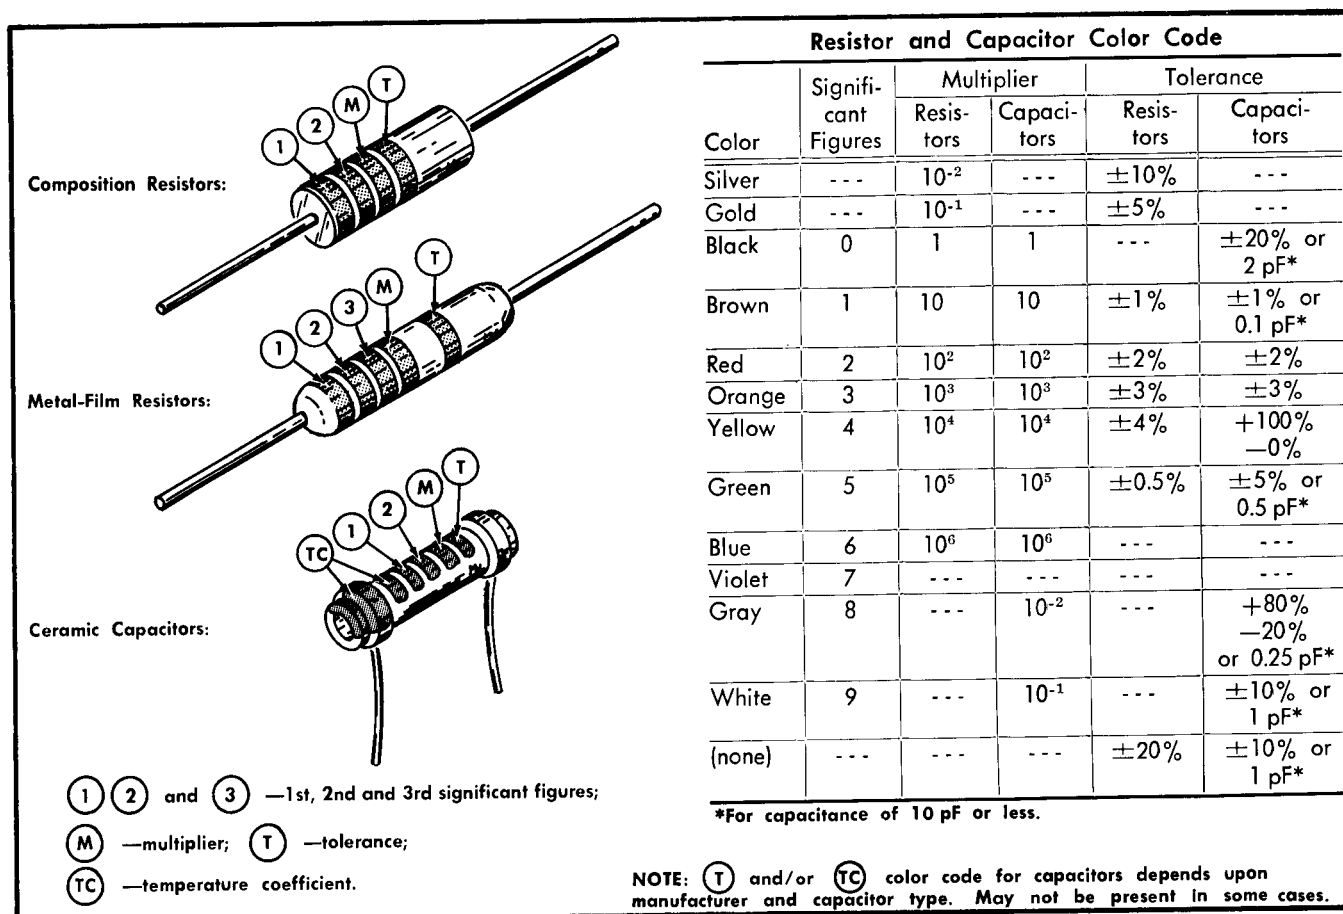

Fig. 6-1. Resistor and ceramic capacitor color code.
The color-coding sequence is shown in Fig. 6-1.
**Capacitor Marking.** The capacitance values of common disc capacitors and small electrolytics are marked in microfarads on the side of the component body. The white ceramic capacitor used in the Type 3S1 are color coded in picofarads using a modified EIA code (see Fig. 6-1).